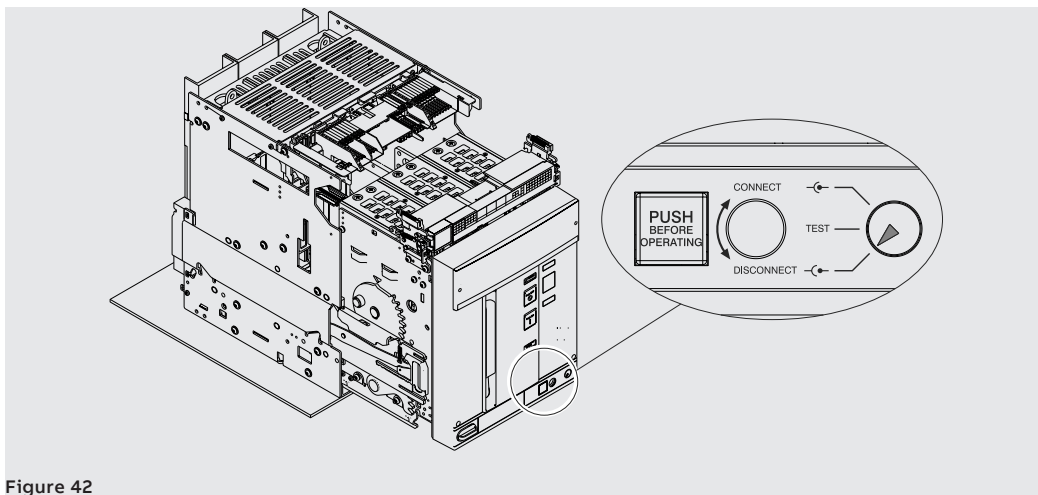

Figure 42
- 6. Make sure that the signalling device indicates the **DISCONNECT** position. See Figure 42.